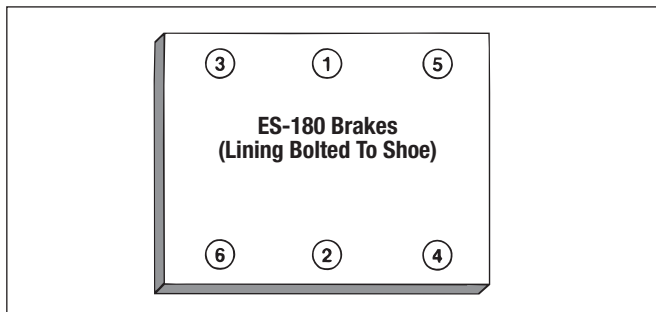

Figure 45 – Bolt on Lining Tightening Sequence
**NOTE:** When installing linings or blocks, make sure they are positioned properly to match the rivet or bolt patterns. Refer to Figure 45.